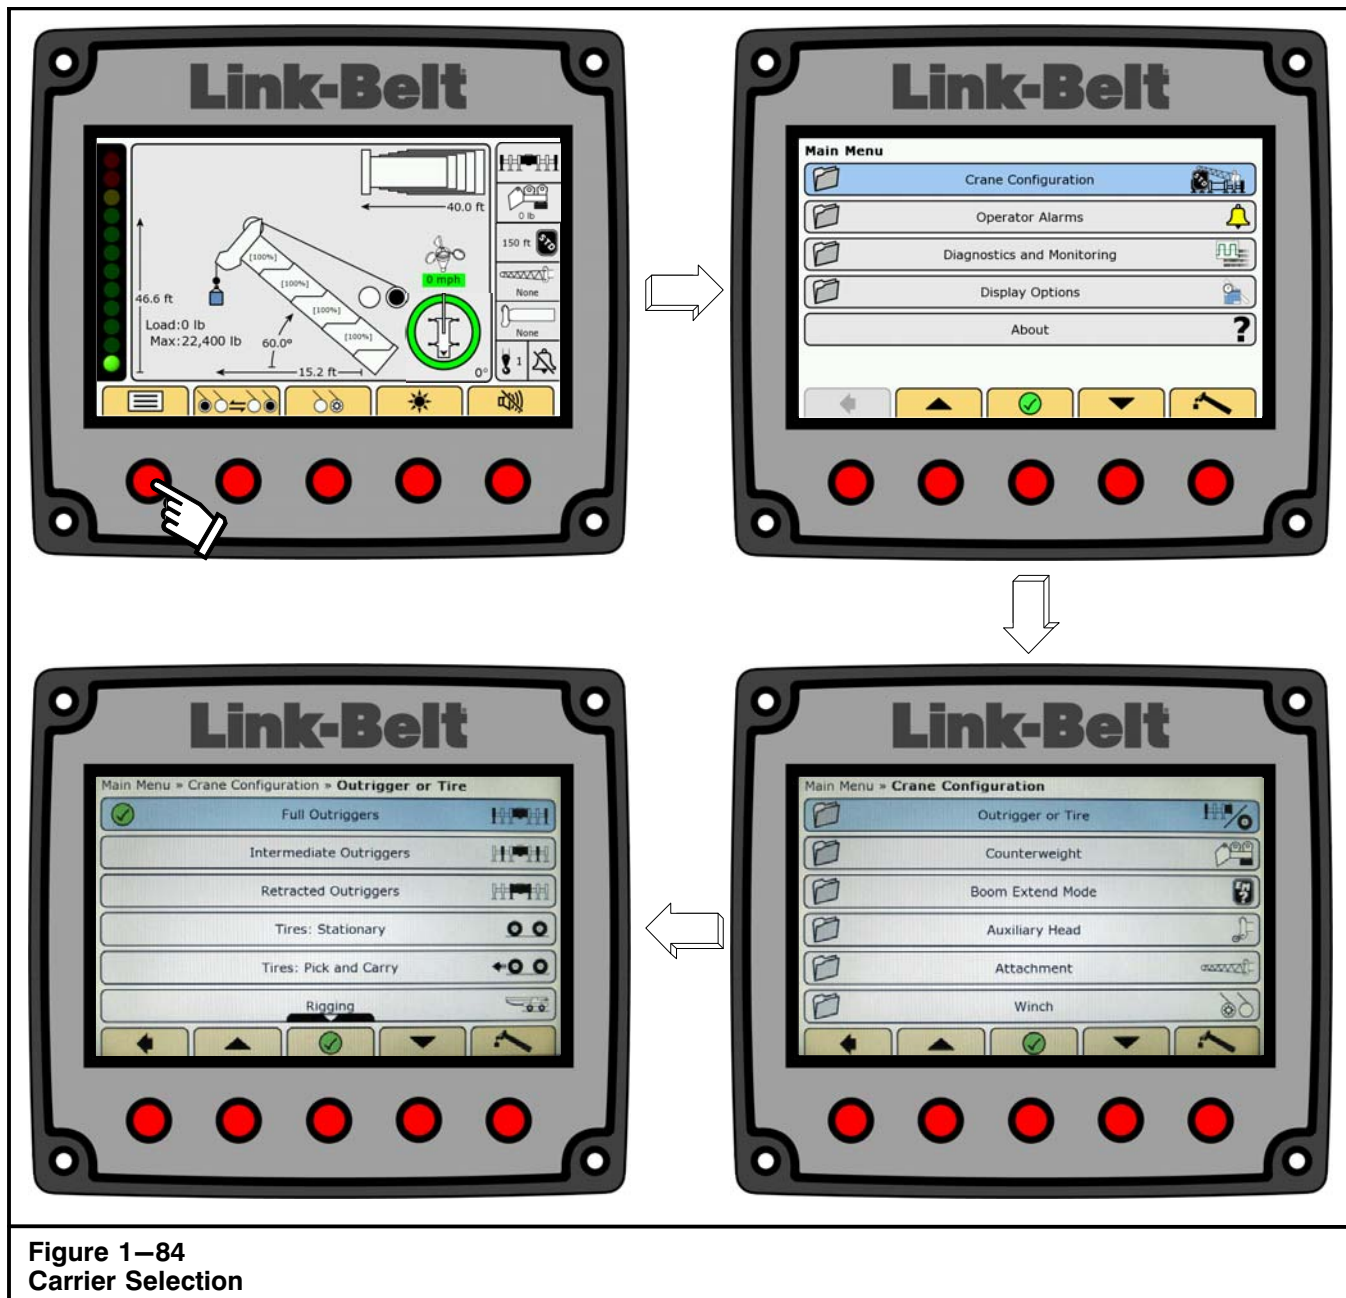

Figure 1-84
3. Scroll to Outrigger or Tire, and press the OK/Enter button . Refer to Figure 1-84.